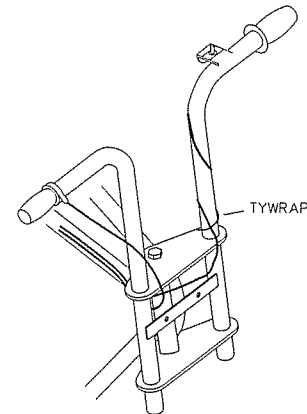

Figure 1: Routing Diagram
in Figure 1, along the Top, Right side of the Frame, and between the Upper Crown Plate and Front Plate Mounting Bracket
2. To mount the Fork Assembly to the Frame, align the Fork Pivot Holes with the Frame Pivot Tube and insert the Bolt (REF 47) through the Fork Holes and Bushings. Ensure the Throttle Cable is to the right of the Pivot Tube, see Figure 1. It may be necessary to tap the head of the Bolt with a hammer to seat it in position against the Nut welded to the bottom side of the Lower Fork Plate. Tighten the Bolt until there is no play between the Fork and the Pivot Tube but will still allow the Fork to rotate freely.
5. Rotate the Twist Grip so that the Throttle Cable points downward and slightly ahead. The Throttle Cable and Housing should form a smooth curve from the Twist Grip to the upper Frame tube, see Figure 1. Tighten the two Screws in the Twist Grip securely.
1. Rout the Stop Switch Wire (REF 65), as shown in Figure 1, along the Top, Right side of the Frame, under the Top Crown Plate, and between the Pivot Tube and Right Fork Tube. Wrap the Wire around the Left Handlebar one time. Remove the Nut and On/Off Plate from the Stop Switch. Pass the Stop Switch up through the mounting hole on the Handlebar. Replace the On/Off Plate and the Nut. Work any slack in the Stop Switch Wire towards the Pivot Tube and apply one Ty-Wrap (REF 72) as shown in Figure 1. Securely tighten the Nut.